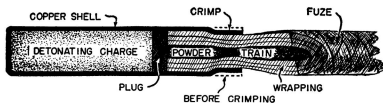

FIGURE 82.—Nonelectric cap.
■ 49. FIRING MATERIALS.—*a. Caps* (figs. 82 and 83).—Caps are placed in charges to set them off. Standard commercial caps will not detonate TNT or ammonium nitrate cratering charge; therefore the army has adopted a special cap. Caps are classified as electric or nonelectric, depending on whether they are set off by electricity or fuze. Both types must be